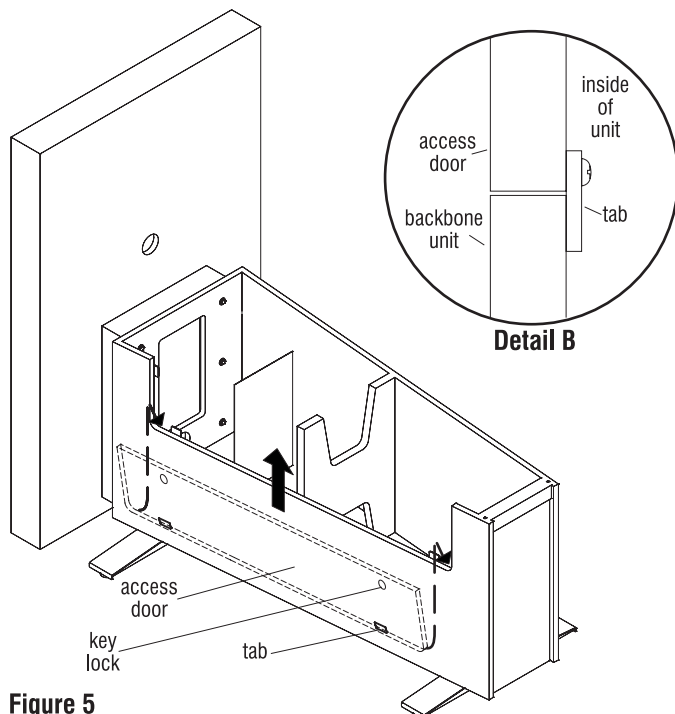

Figure 5
12. Position access door as illustrated with tabs facing down and towards the inside of unit (Figure 5).
13. Lift door up and tilt away from unit so that the tabs can slide into opening, make sure tabs are positioned correctly (Figure 5 & Detail B).
15. Place keys into pre-installed key locks on access door and turn them so that the door is locked into place and does not fall out (Figure 5).